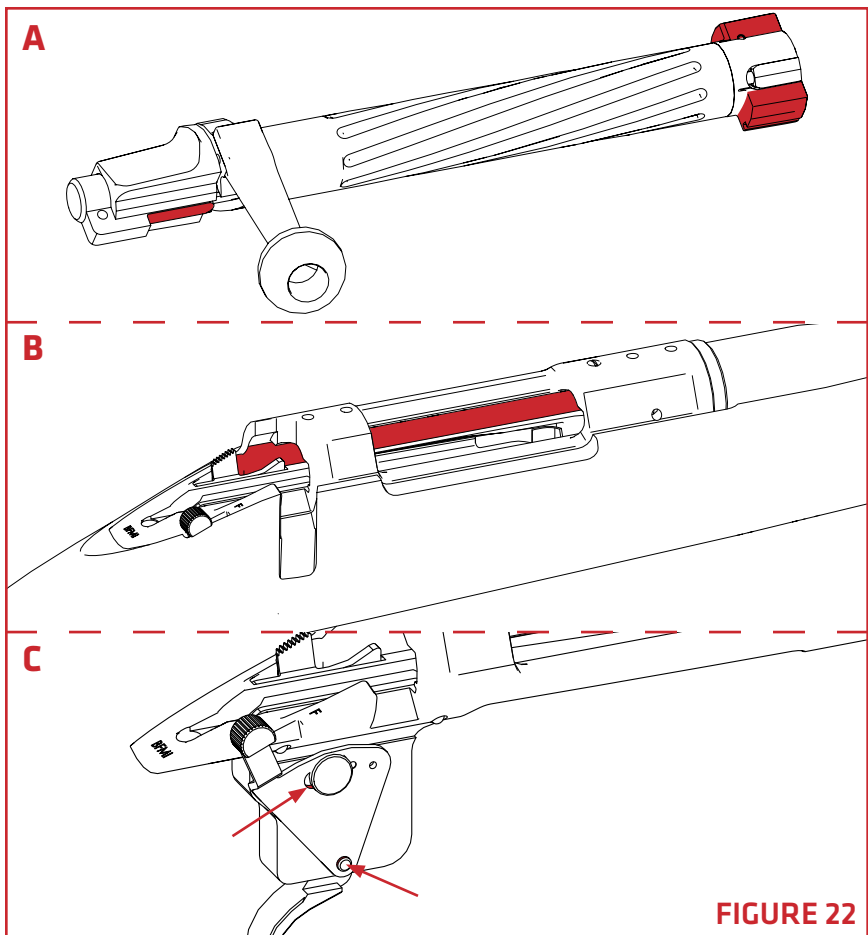

FIGURE 22
9. Lubricate the sides and rear face of the bolt lugs and the surface of the striker that interfaces with the sear (**FIGURE 22-A**).
10. Lubricate cam surfaces on the inside of the receiver that the bolt (**FIGURE 22-B**).
11. Lubricate the pivot point and the sliding parts of the safety (**FIGURE 22-C**).